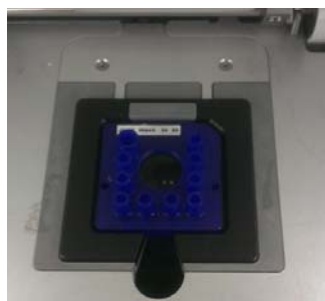

Figure 6. Chip in the LabChip GX Touch/GXII Touch instrument
- 5 Insert the chip into the LabChip GX Touch/GXII Touch instrument (Figure 6) and close the chip door securely.